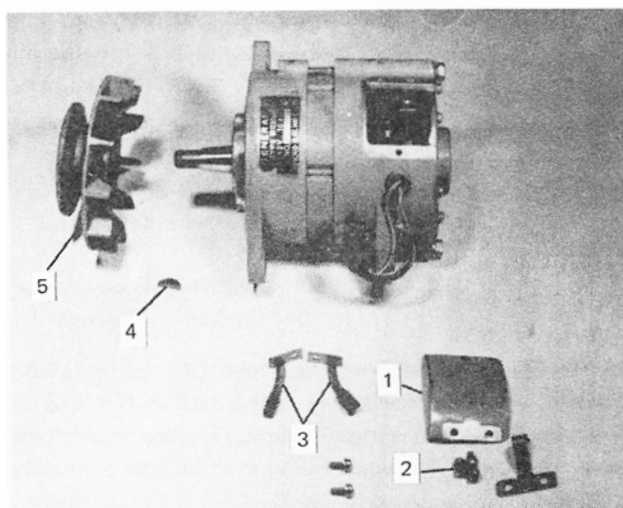

Figure 6
1. Remove the retaining screws and brush cover from the alternator and remove the brushes, Figure 6.
2. Remove the retaining nut and washer from the alternator shaft and remove the pulley and key, Figure 6.